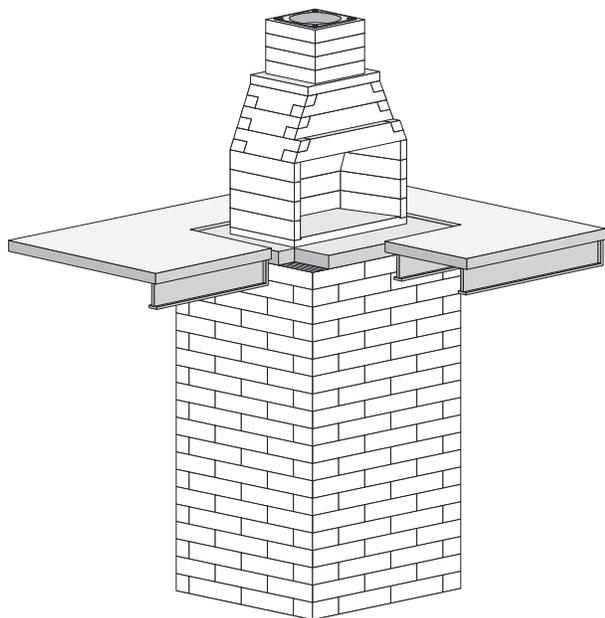

FIGURE 4.2
2. **Concrete Pad Supported by Masonry (CMU) Tower (Figure 4.2):** Typically used when the fireplace is placed over a basement or crawl space. The noncombustible pad is best made from a 6" thick concrete slab with #4 rebar tied together at maximum 12" intervals, center poured on top of corrugated metal. Concrete pad must be supported by a full masonry tower with no combustible underpinnings to withstand the weight of the firebox and flue system